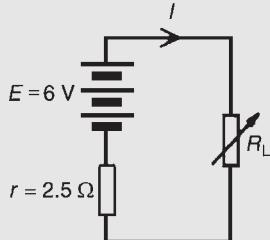

Figure 13.82
**Problem 22.** The circuit diagram of Fig. 13.82 shows dry cells of source e.m.f.  $6\text{ V}$ , and internal resistance  $2.5\Omega$ . If the load resistance  $R_L$  is varied from  $0$  to  $5\Omega$  in  $0.5\Omega$  steps, calculate the power dissipated by the load in each case. Plot a graph of